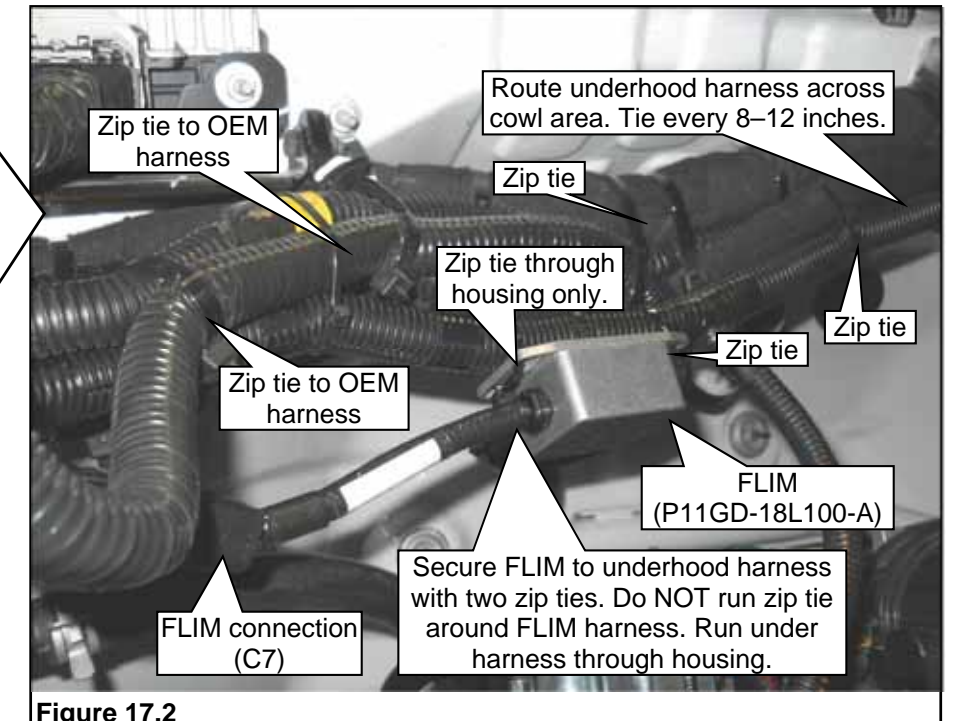

Figure 17.2
4. Plug in the fuel level interface module (FLIM) connector (and in-line fuse) to the underhood harness FLIM (C7) connection. Use two zip ties to secure the FLIM to the underhood wiring harness as shown. Zip tie the underhood harness to the OEM electrical harness every 8–12 inches along the routing. **Figure 17.2.**